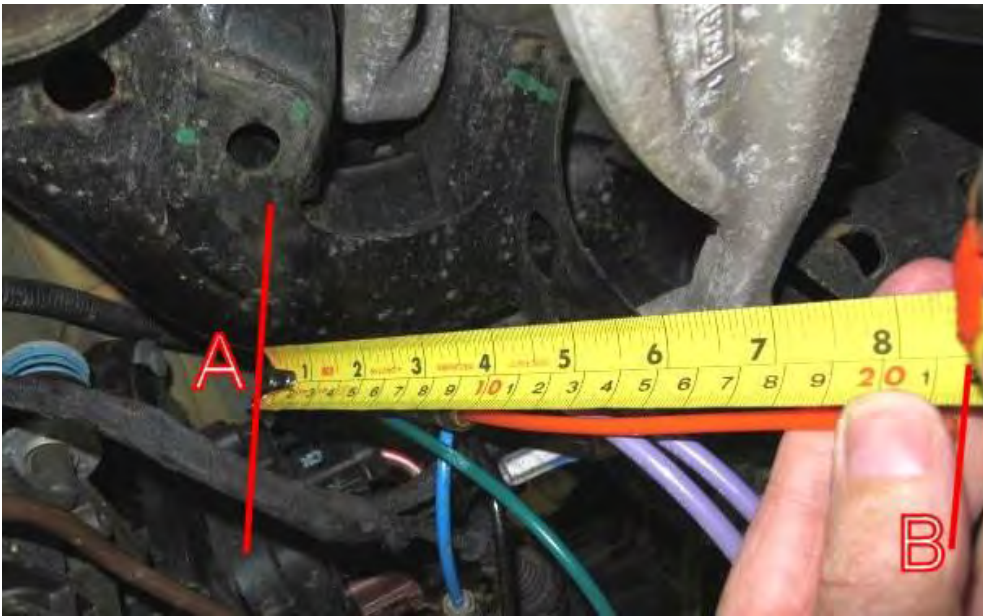

Figure 10
13) Referring to Figure 10 - Shorten/cut the red air hose (at a right angle) to the specified length using VAS 6228 or similar